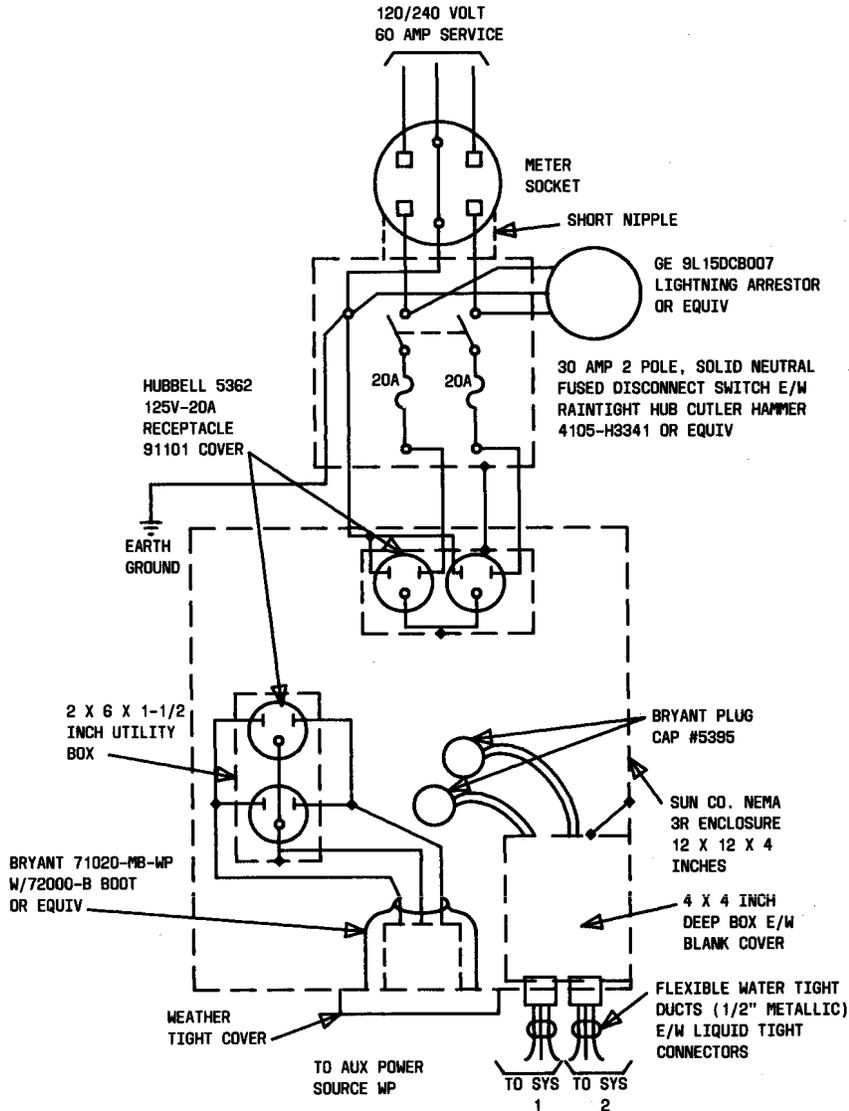

Fig. 26—Providing Auxiliary Power For One or Two SLC-96 RTs Using Standard Electrical Components
C. Power Configuration No. 1 (Fig. 26) For One or Two SLC-96 RTs